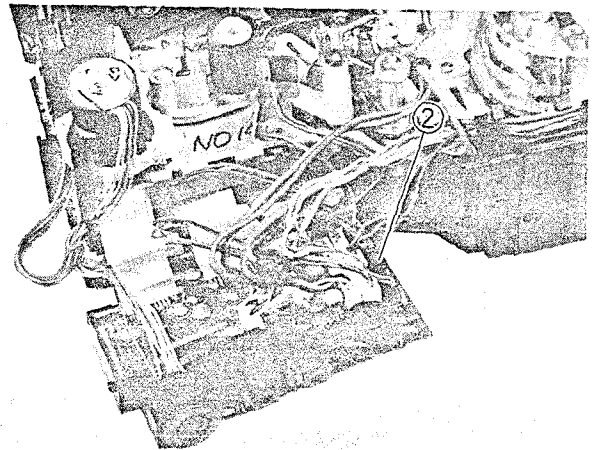

Fig. 2-61 Supply End Sensor Removal
Supply End Sensor Removal (Figs. 2-61, 2-62, 2-63, 2-64)
2. Disconnect connector CN123. (See Fig. 2-61)